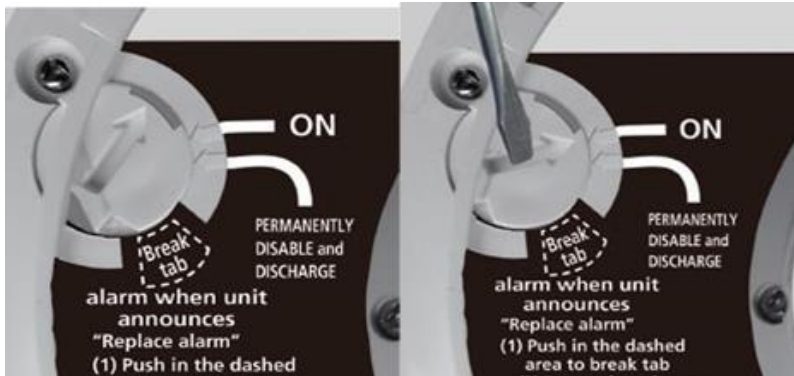

Figure 3
2. Power on all detectors by attaching the detectors onto the mounting bracket (trim plate) to activate the battery, or by carefully turning the activation wheel with a screwdriver. See Figure 3.
3. Power up the new wireless unit by twisting the detector onto the mounting bracket (trim plate) to activate the battery, or by carefully turning the activation wheel with a screwdriver. See Figure 3.
4. Wait fifteen (15) minutes for the network setup to timeout, OR to immediately close the network, push and hold the test button until two beeps are heard (approximately four seconds), and then release the button.